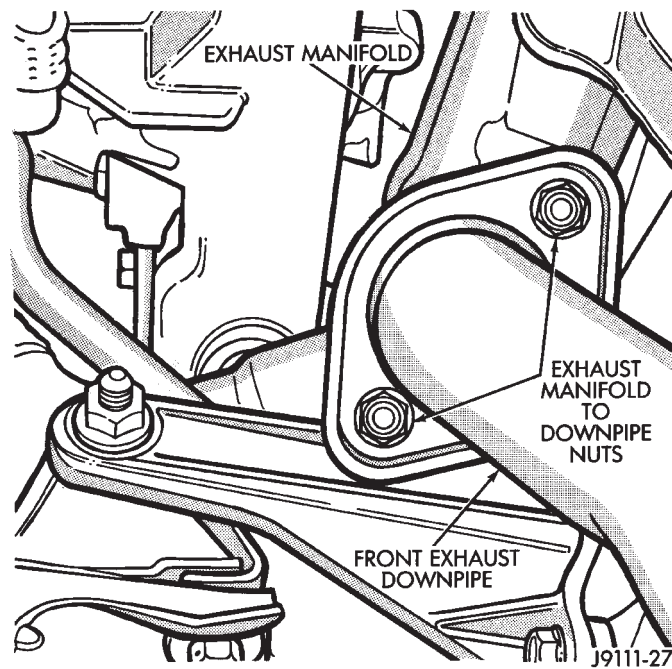

Fig. 1 Exhaust Pipe-to-Engine Exhaust Manifold Nuts
- (1) Raise and support the vehicle.
- (2) Saturate the bolts and nuts with heat valve lubricant (Fig. 1). Allow 5 minutes for penetration.
(1) Assemble exhaust pipe to manifold and catalytic converter loosely to permit proper alignment of all parts.
(2) Use a new clamp at the exhaust pipe to catalytic converter connection and tighten the nuts to 61 N•m (45 ft. lbs.) torque.
(3) Connect the exhaust pipe to the engine exhaust manifold using new nuts. Install a new seal between the exhaust manifold and the exhaust pipe (4.0L engine, only). Tighten the nuts to 31 N•m (23 ft. lbs.) torque (Fig. 1).